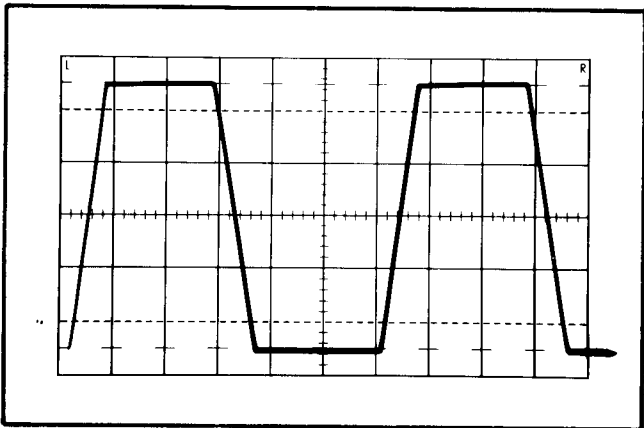

Fig. 5-5. Type R116 output pulse which should be obtained if instrument is operating properly.
a. If no pulse appears, start at the beginning of the troubleshooting chart, point (A).
b. If a pulse appears but is improperly shaped (compared to Fig. 5-5), start at point (B) of the troubleshooting chart.
c. If the undelayed pulse is similar to the pulse seen in Fig. 5-5 but a problem arises in other modes of operation or in external triggering, start at point (C) on the troubleshooting chart according to the trouble symptom.